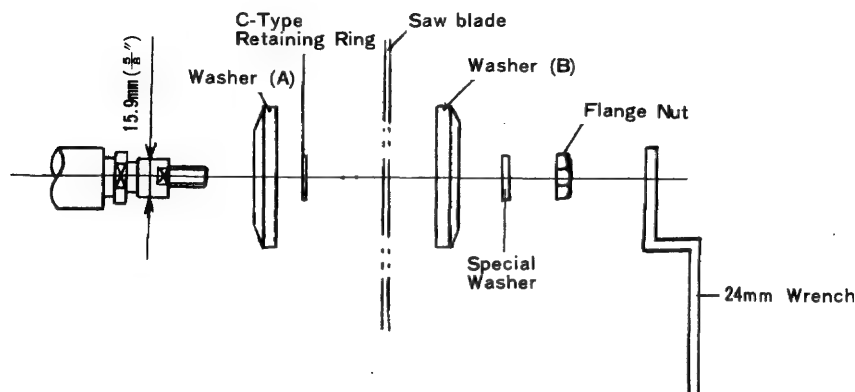

Fig. 19
1. Mounting saw blade (Figs. 18-a, 18-b, and Fig. 19)